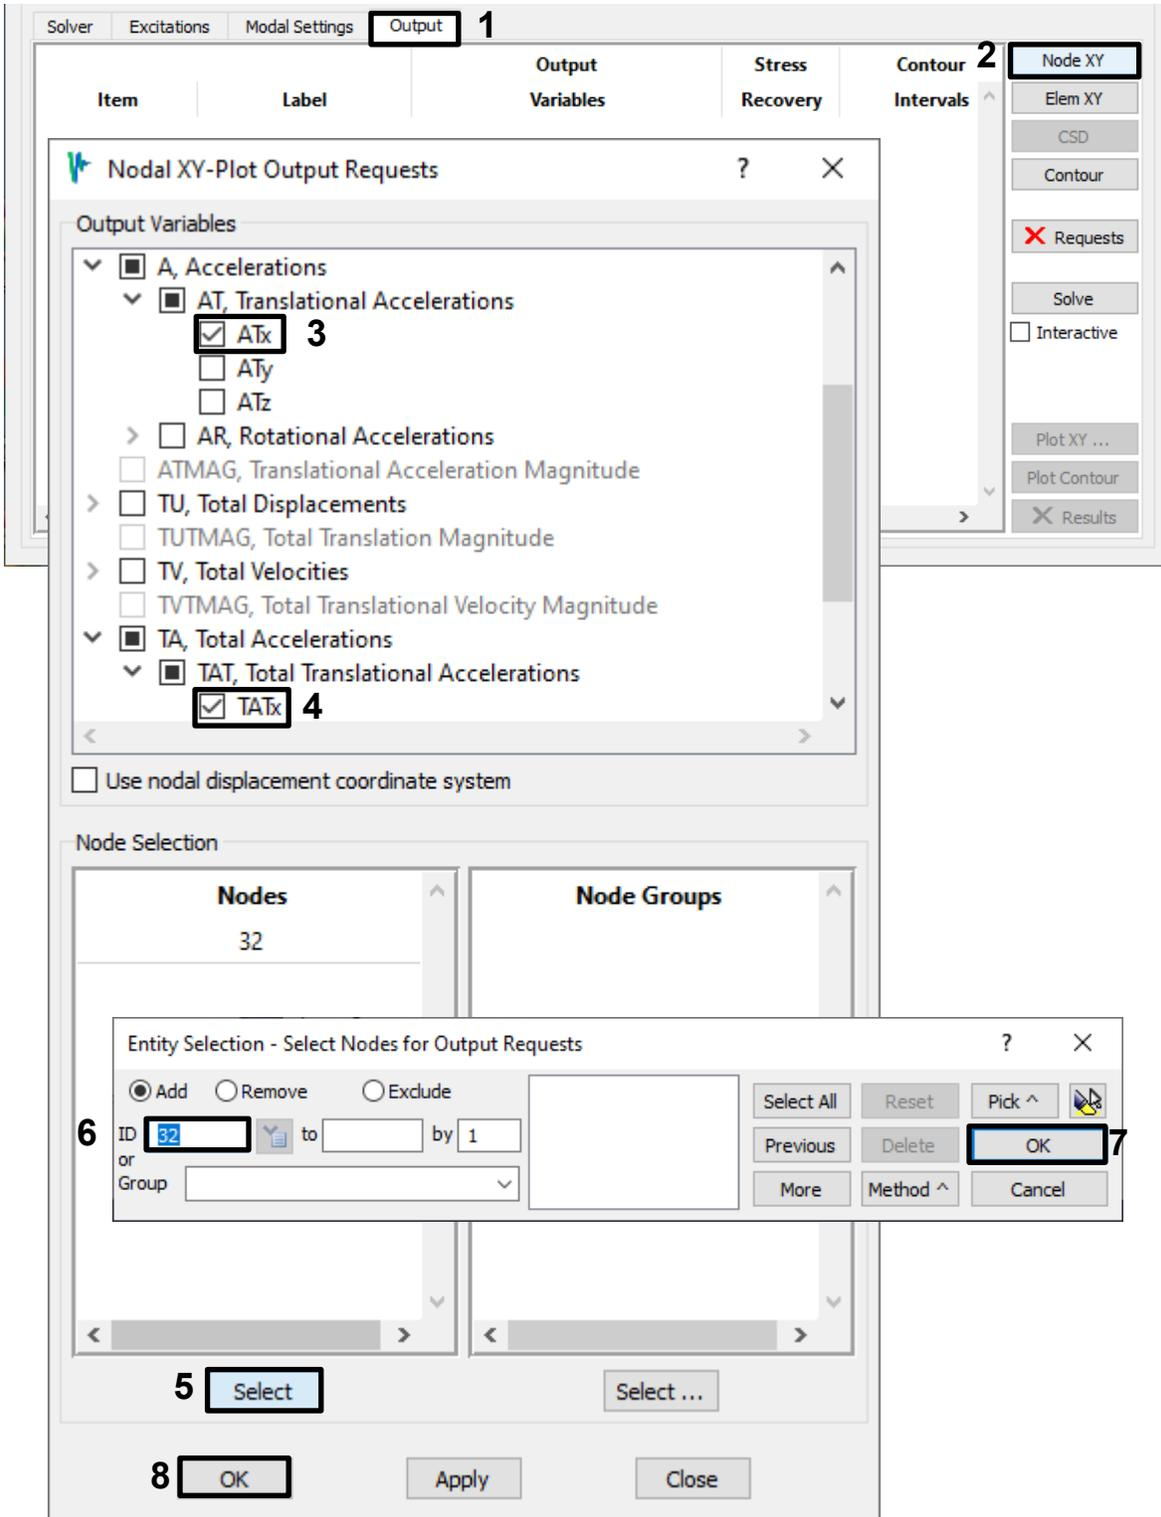
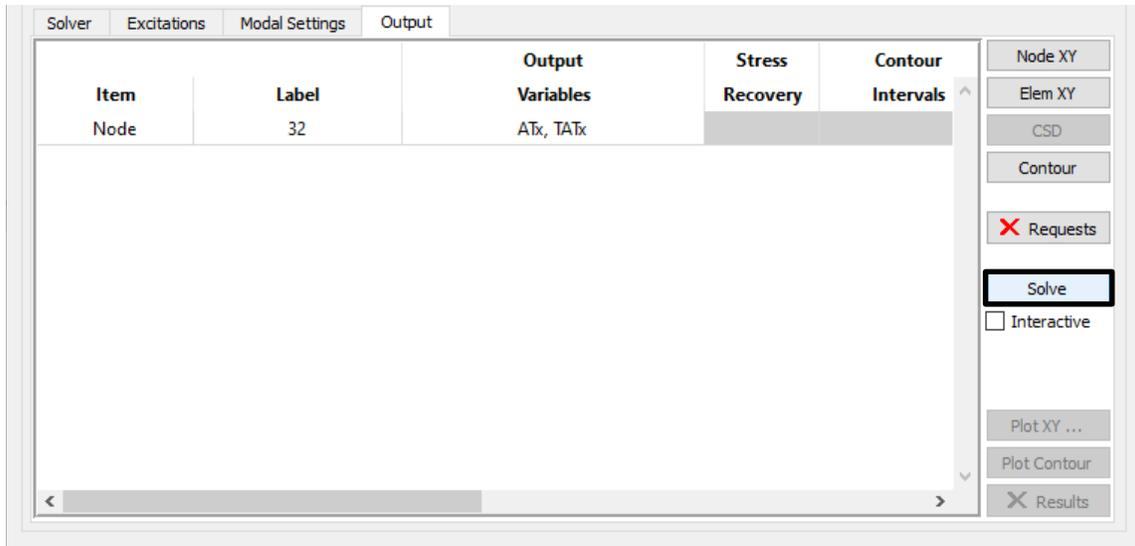

Figure 4-14. Request XY output for total and flexible X-accelerations at node 32.
Figure 4-15. Solve for the requested output.
5. Create a Node XY output request for the free DOF. Select the *Output* tab. Request X-direction output at node 32 for Total Accelerations (*TATx*) and Relative Accelerations (*ATx*), as shown in Figure 4-14. When you click **OK** or **Apply** on the *Nodal XY-Plot* dialog, the request appears in the output request table as shown in Figure 4-15.
- a. On the Output tab, click Solve (Figure 4-15) to compute the frequency response.